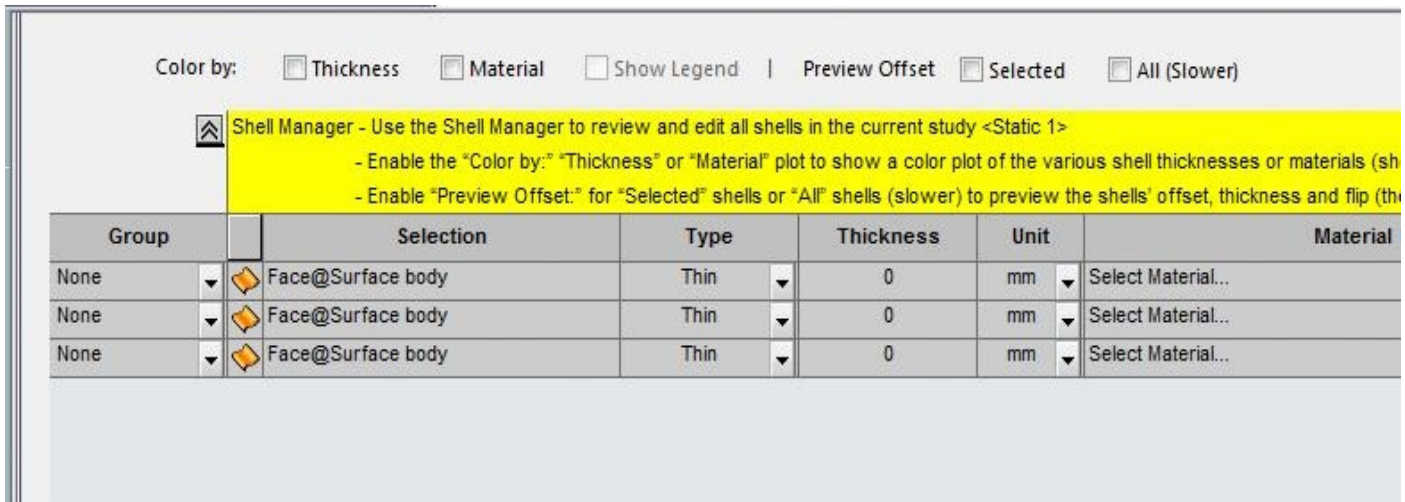

Figure-28. Shell Manager pane
- Click on the **OK** button from the **Shell Manager**. The surfaces will be displayed in the **Shell Manager** pane; refer to Figure-28.